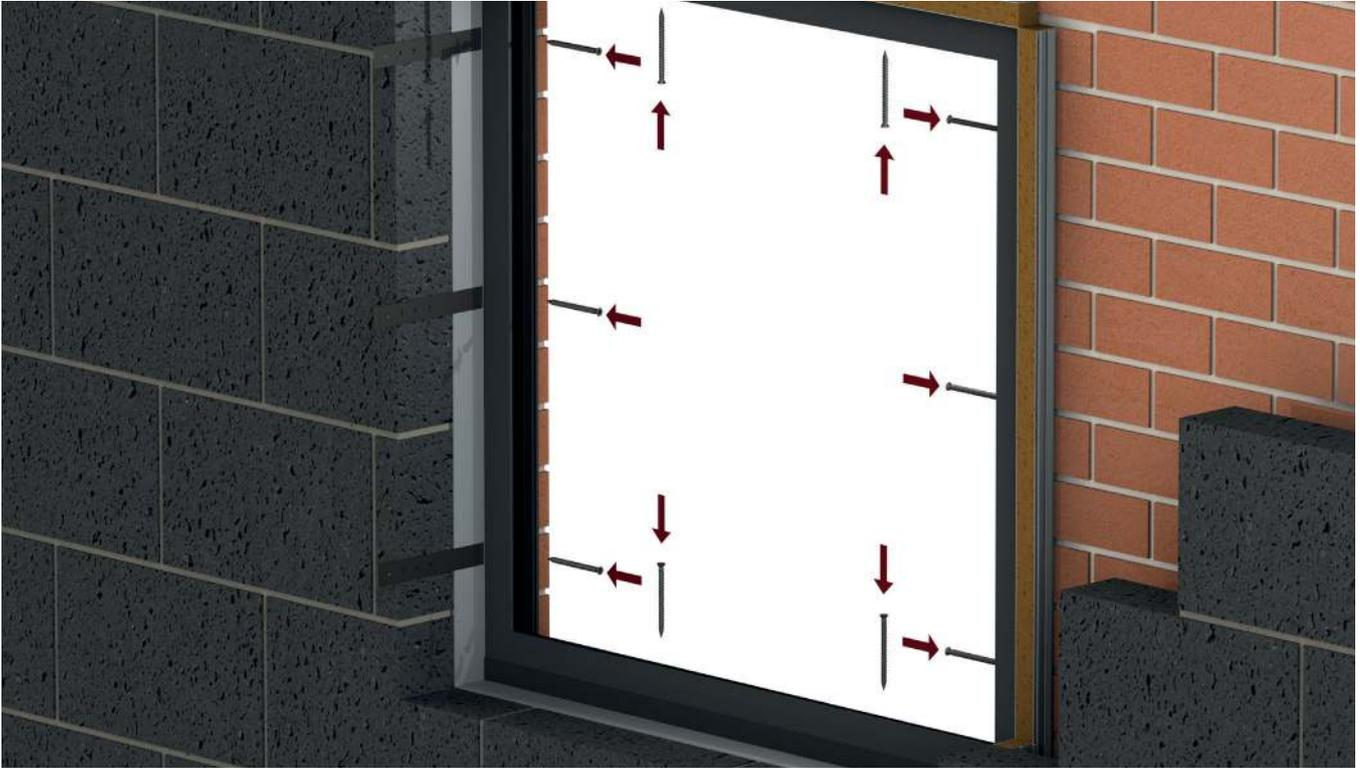

FIG 3
- Fixings should be at no greater than 600mm apart and there should be the minimum of two fixings on each side - on windows over 1,800mm wide, central head and cill fixings should be provided (Fig.3)